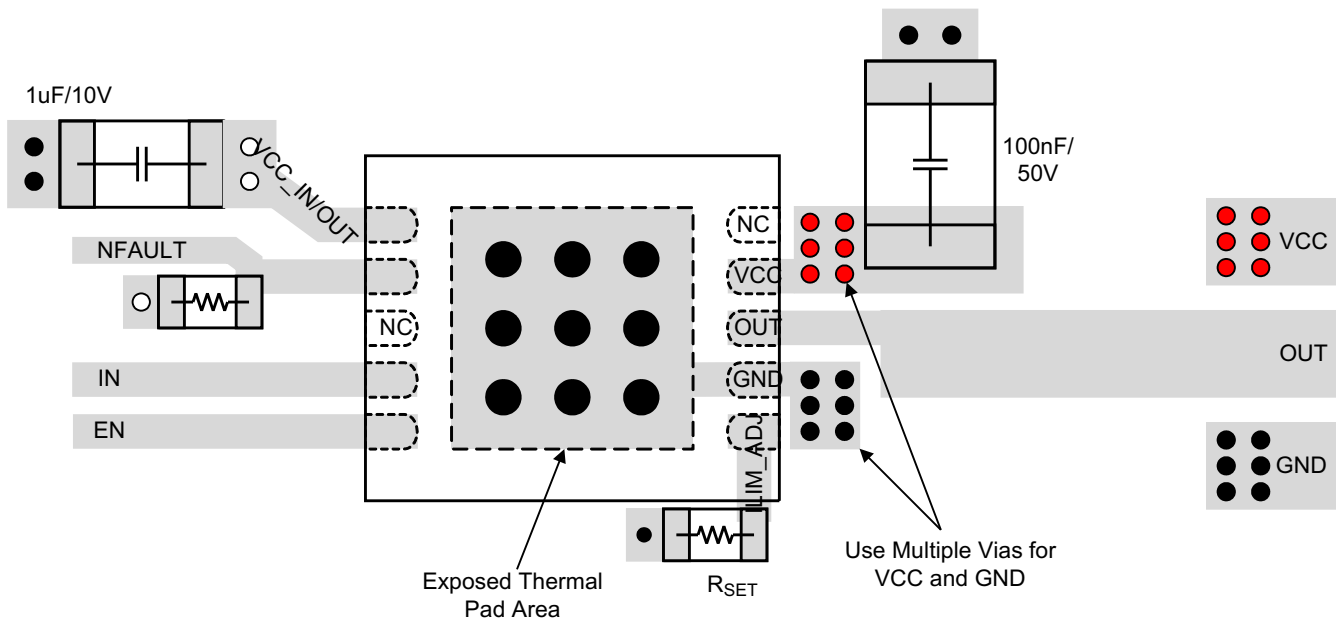

图 11-1. Layout Example
- • The optimum placement of the capacitor is closest to the VCC and GND terminals to reduce supply drops during large supply current loads. See 图 11-1 for a PCB layout example.